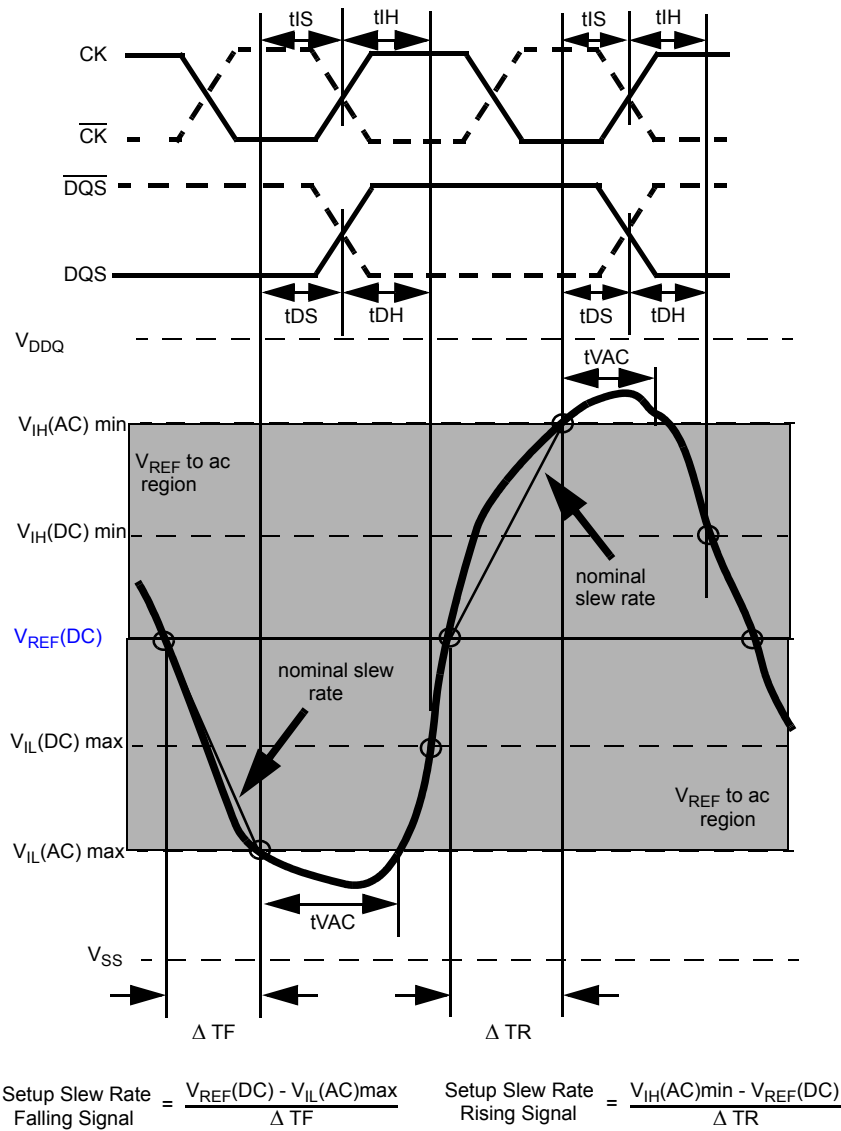

Figure 21. Illustration of nominal slew rate and t_{VAC} for setup time t_{DS} (for DQ with respect to strobe) and t_{IS} (for ADD/CMD with respect to clock).
Example: tIS (total setup time) = tIS(base) + ΔtIS Setup (tIS) nominal slew rate for a rising signal is defined as the slew rate between the last crossing of VREF(DC) and the first crossing of VIH(AC)min. Setup (tIS) nominal slew rate for a falling signal is defined as the slew rate between the last crossing of VREF(DC) and the first crossing of VIL(AC)max. If the actual signal is always earlier than the nominal slew rate line between shaded 'VREF(DC) to ac region', use nominal slew rate for derating value (see Figure 21). If the actual signal is later than the nominal slew rate line anywhere between shaded 'VREF(DC) to ac region', the slew rate of a tangent line to the actual signal from the ac level to dc level is used for derating value (see Figure 23).